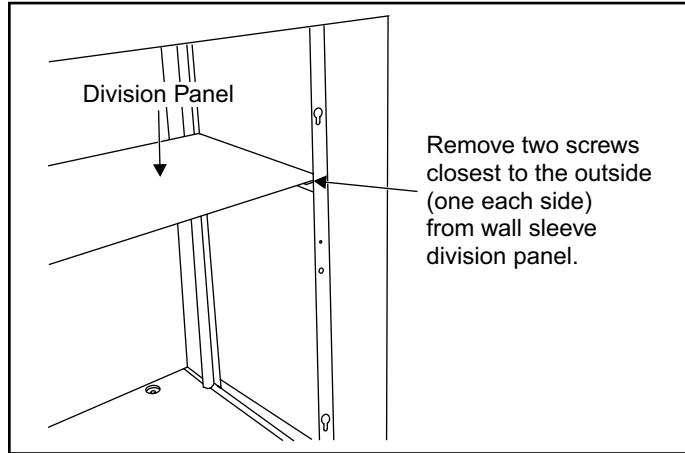

Figure 2. Removing Wall Sleeve Division Panel Outside Screws
1. Remove outside screws holding wall sleeve division panel to side panels as shown in Figure 2.